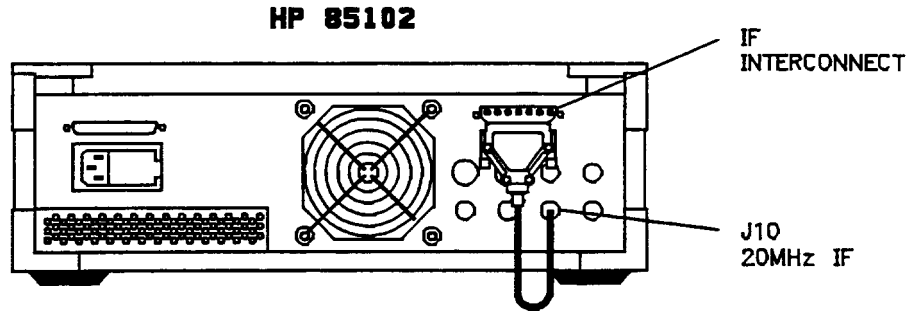

Figure 6-6 Service Adapter Connections
1. Connect the service adapter as shown in Figure 6-6.